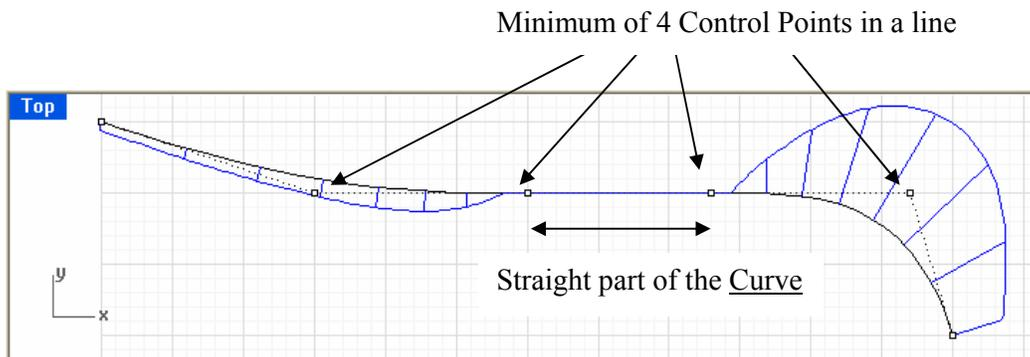

Figure 0-8 Fairing from both sides into a straight line.
Use at least Four (4) control points in line to fair into a straight line from both sides. See Figure 0-8.